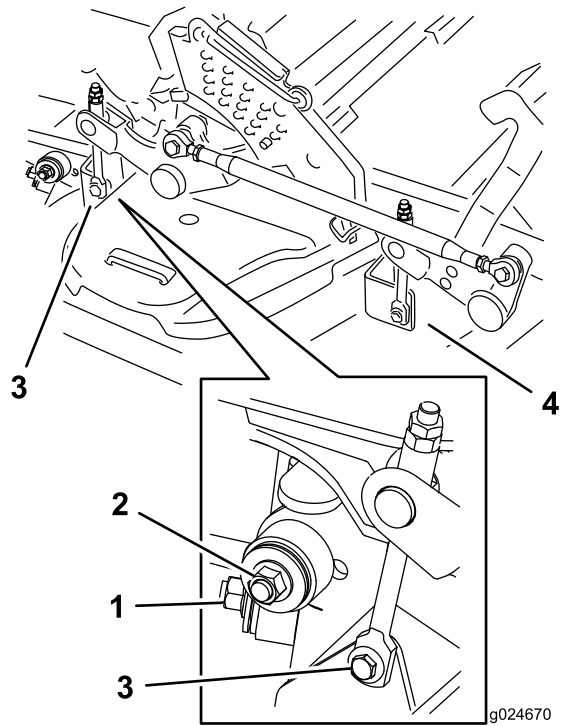

**Figure 102**
5. Lift up the floor pan and insert a ratchet into the square hole in the deck idler (Figure 102).
6. Rotate the deck idler clockwise and remove the mower belt (Figure 102).